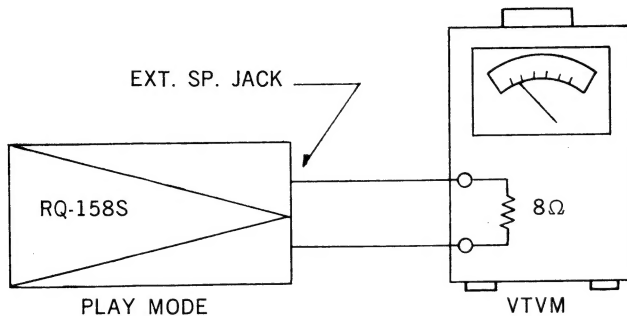

Fig. 1
Measuring Circuit: Refer to Fig. 1.
1. As shown in Fig. 1, connect V.T.V.M. to Extension Speaker Jack of model RQ-158S and terminate with  $8\ \Omega$  resistor.